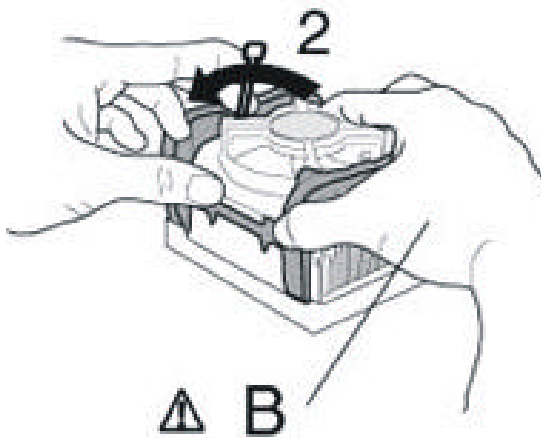

Figure 3-9c: Installing the Fan Heatsink (6)
- b.) Then, close the clip lever (2 in Figure 3-9c), while holding the topside of the fan heatsink with your other hand (B in Figure 3-9c).